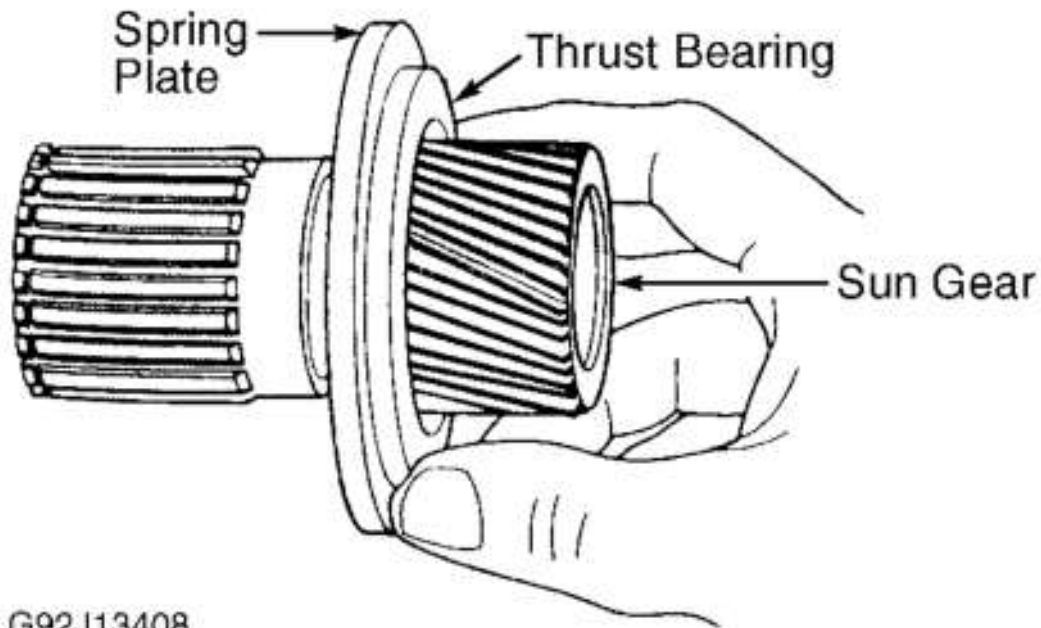

Fig. 47: Installing Spring Plate & Thrust Bearing On Sun Gear
7. Install planetary gear in annulus gear. Ensure planetary gear is fully seated. Install spring plate on sun gear with shoulder on spring plate toward front of sun gear, if removed. See **Fig. 47** . Install snap ring.